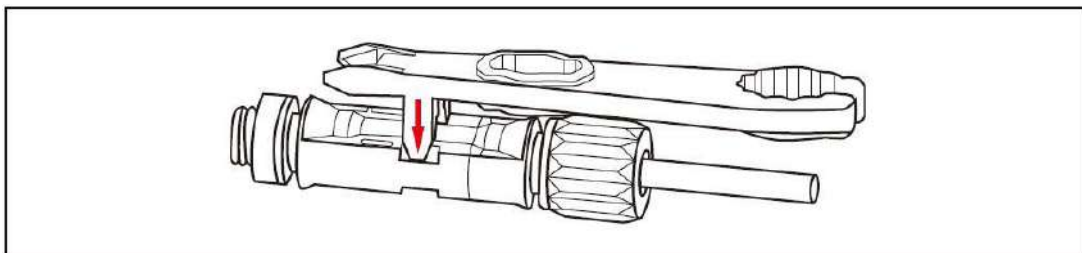

Figure 9.1 Removing DC input connector
Step 1 Disconnect all cables from the inverter, including communications cables, DC input power cables, AC output power cables, and PGND cables, as shown in Figure 9.1.